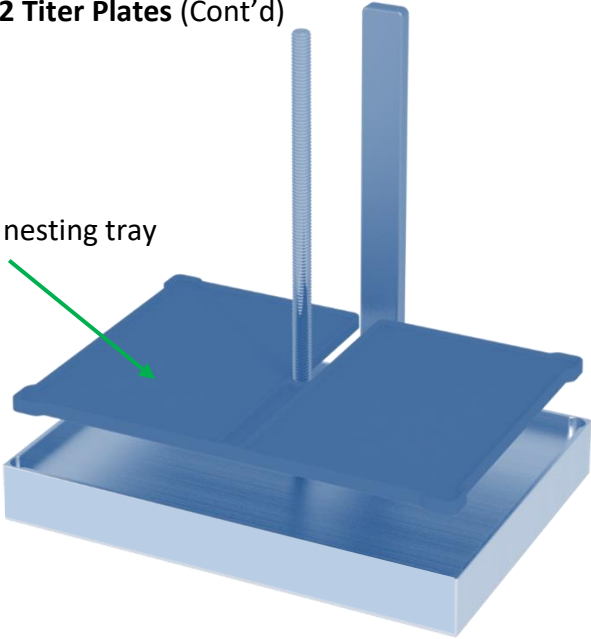

Figure 17– Bottom nesting Plate in the 2012 Clamp Base
5. Place the single-sided nesting tray in the bottom of the clamp base, as shown in Figure 17, with the nests facing up.